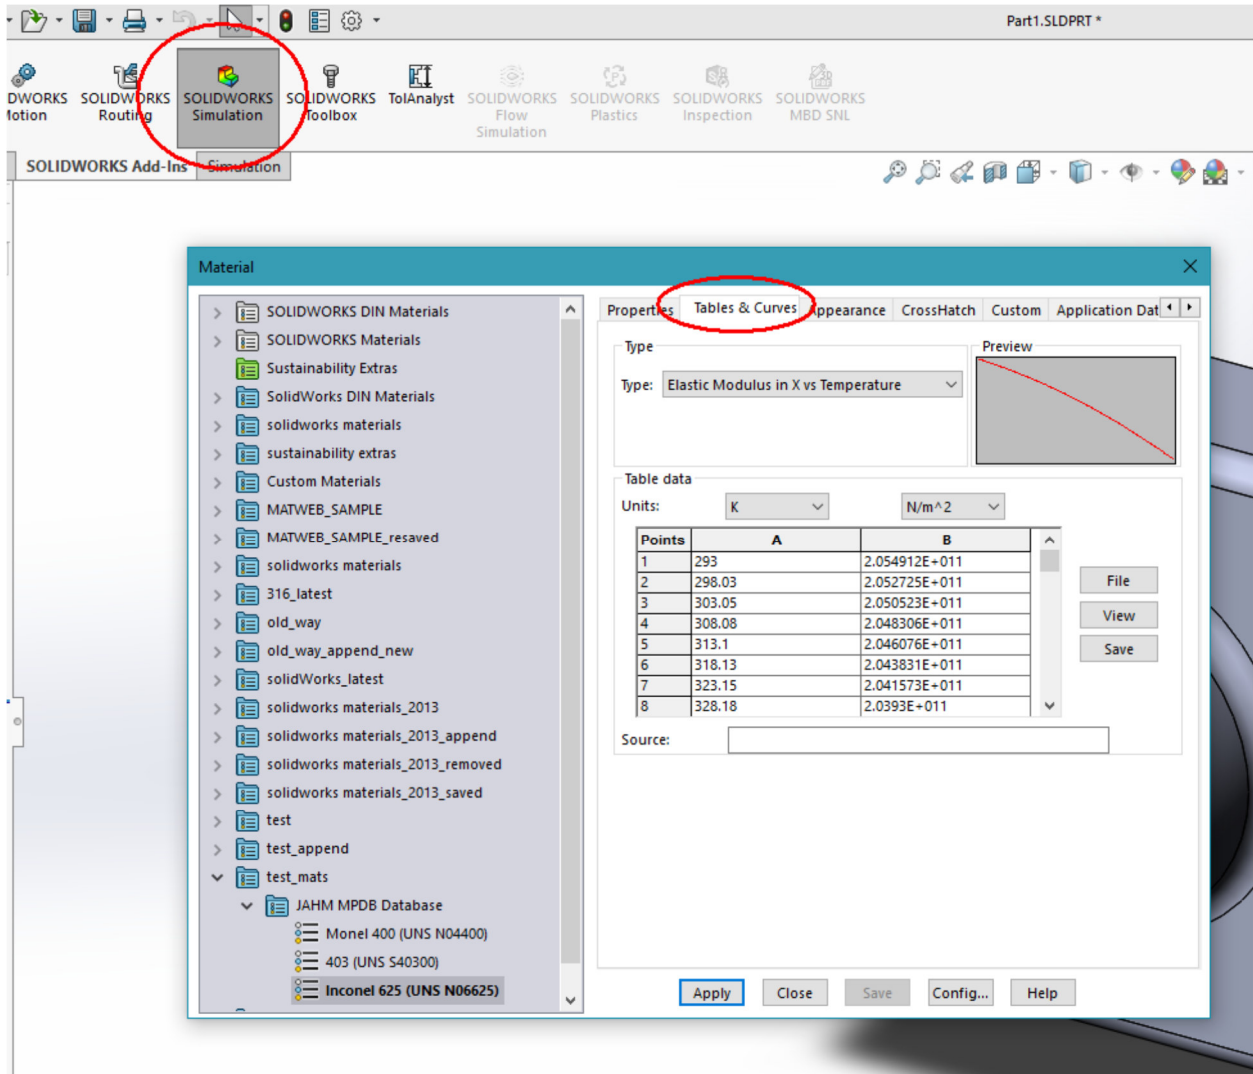

Figure 12.
- III. You will see a list of the default SOLIDWORKS material files and any databases that you have added to the directory you defined in Step 2 above. Click on a database to see the materials in that database (Figure 12.)